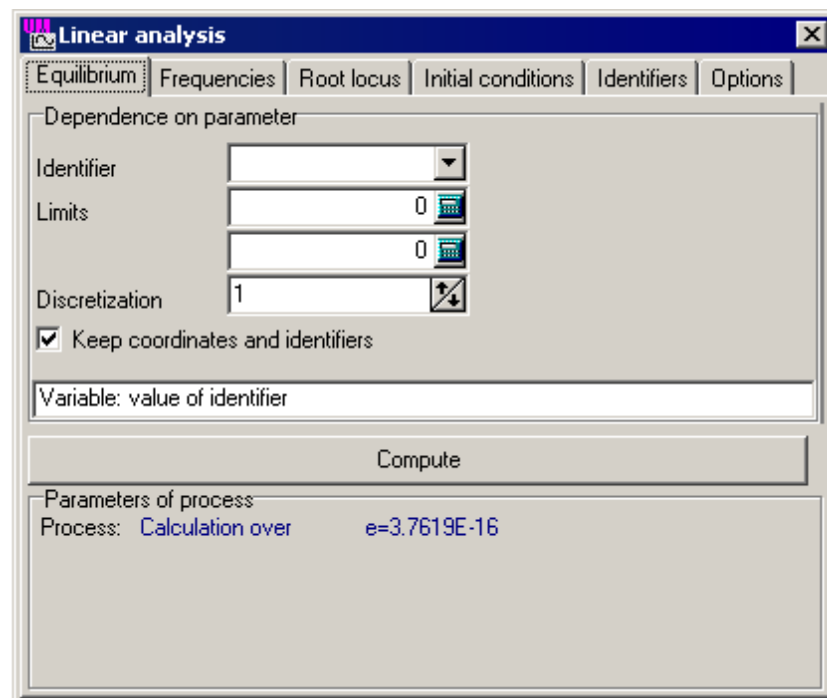

Figure 3.22
3. Select the **Equilibrium** tab. Turn on the **Keep coordinates and identifiers** check box. Start the calculation by the **Compute** button, Fig. 3.22.